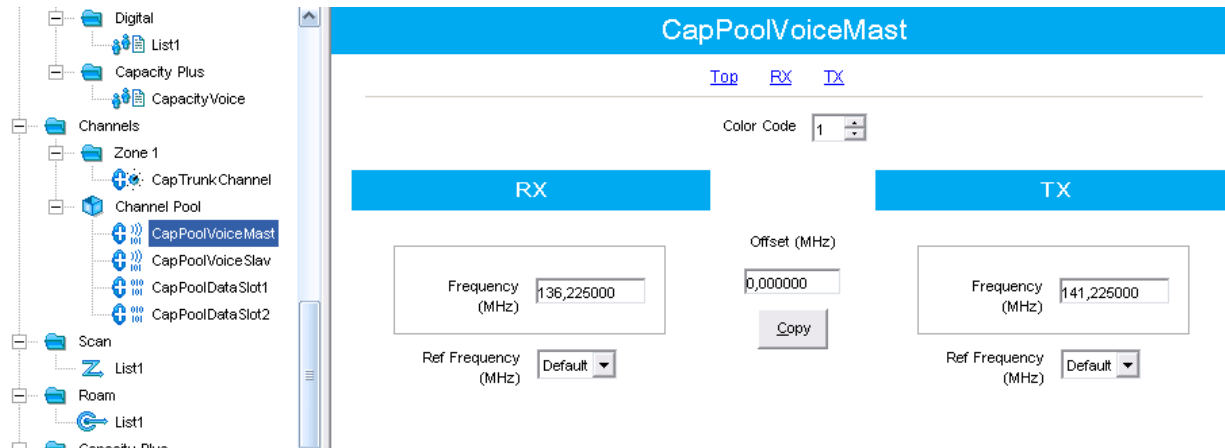

Fig. 20 - Creating channel pool for Master repeater
1. Create channel pool for Master (Trunk) repeater (Fig.20).